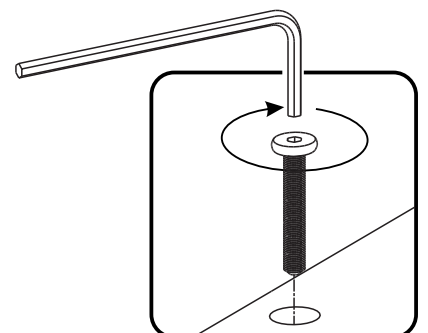

Figure 3
Attach Base (W) to unit with Head Cap Bolts (long), then flip Locks. (See Figure 3)